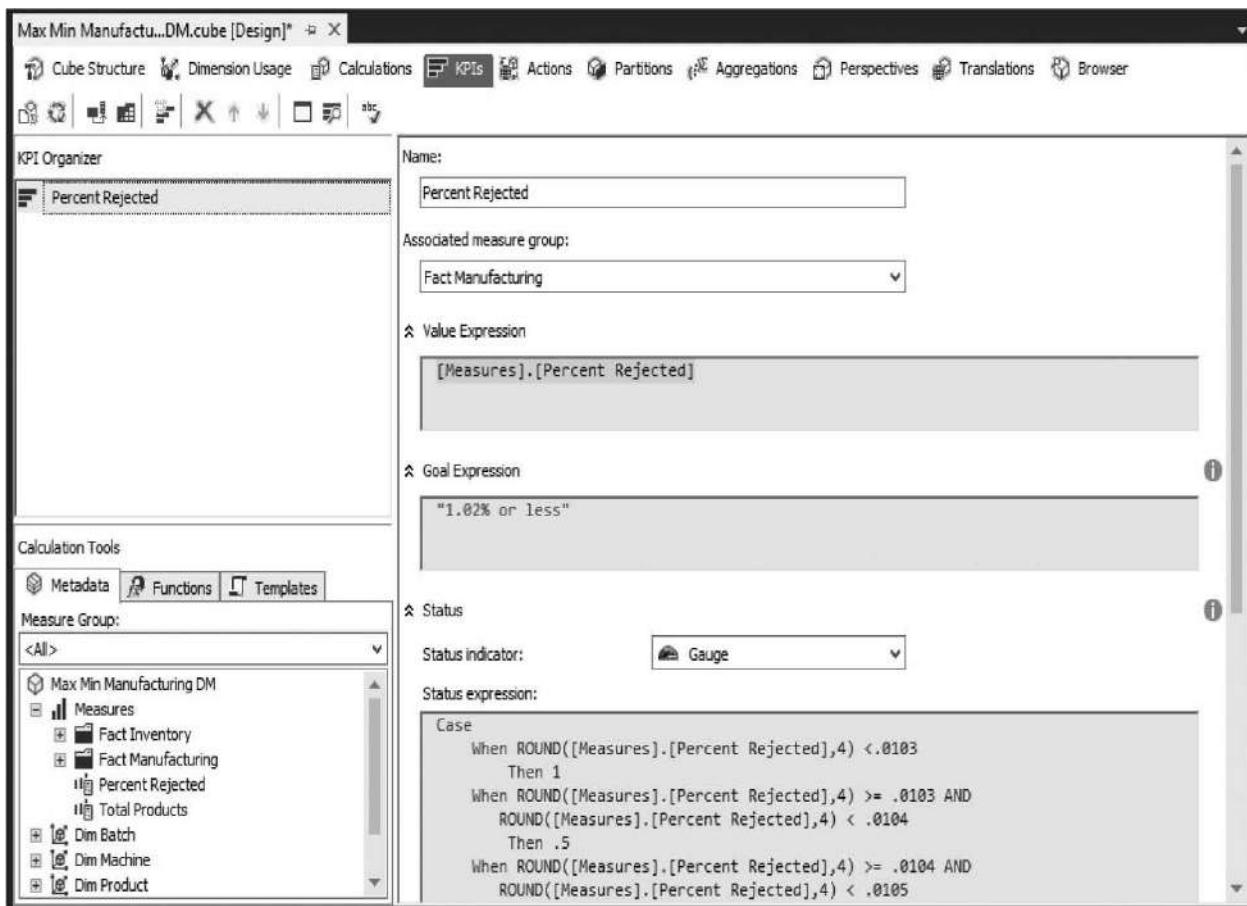

Figure 12-19 The KPIs tab on the Cube Design tab
Key performance indicators are created using the KPIs tab on the Cube Design tab shown in Figure 12-19. On this tab, we define each property of the KPI:
11. Click the Save All button on the toolbar. The KPIs tab should appear similar to Figure 12-19.